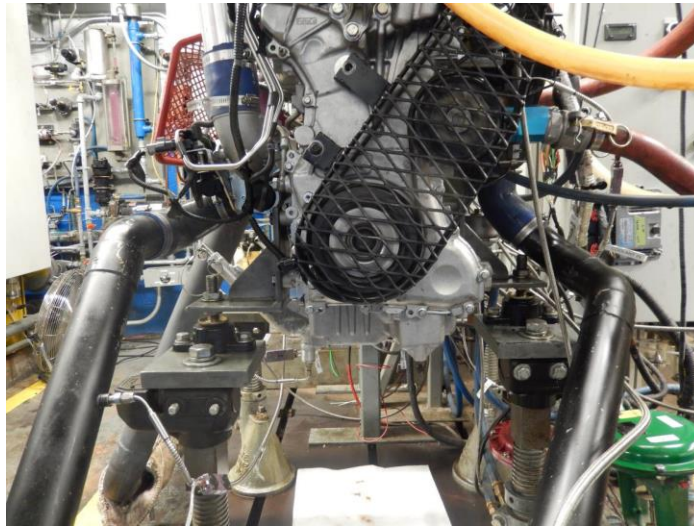
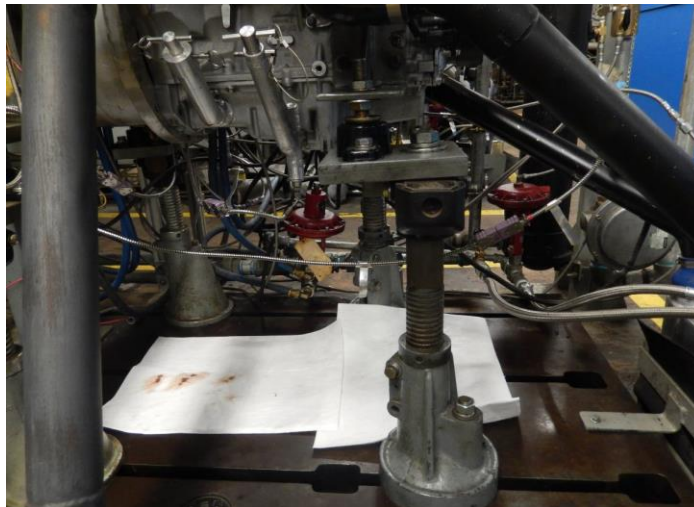

Figure 6: Motor mounts front
Figure 7: Motor mounts side
- **Engine Mounts/Brackets:** Four motor mounts are used (Quicksilver part# 6628-A) as shown in Figure 6 and Figure 7. Drawings of the mount brackets can be found in the Figure A1.1 and Figure A1.2.